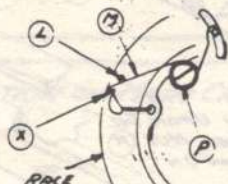

FIG. 4
THE APPROX. CORRECT POSITION IS AS SHOWN IN FIG. 4 AT (R) (AT EDGE OF MACHINED PORTION OF CAM CASE)